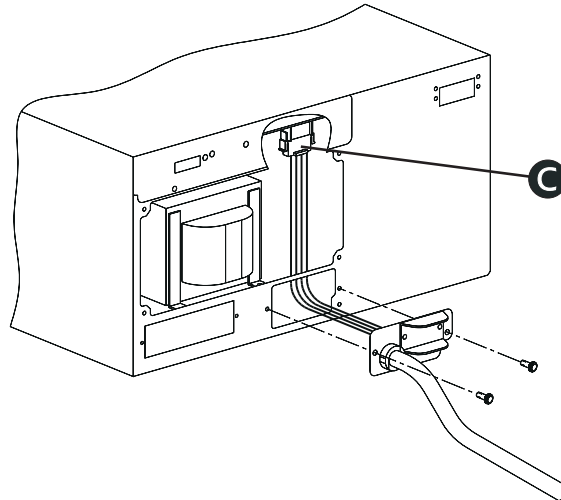

Figure 5-18 Removal of Input Panel (100V and 120V Rack Mount)
1. *Remove the two screws from the input panel as shown in Figure 5-18.*
NOTE: *If you are hard wiring the input only, retrieve the old line cord and cut the last 6" from the end with the 4-wire connector attached. This connector and the attached wires will be spliced to your input line. Using approved field-applied splicing devices, connect the two black wires to Line1 (or Hot) of your input line and the two white wires to Line2 (or Neutral) of your input line. Plug the connector into the mating connector in the UPS (Figure 5-18) and reinstall the input and output panels.*
2. Retrieve one of the four-wire, yellow jumper harnesses (Figure 3-1, item #9). Plug the “female” end of the jumper harness into connector #4. Connect the “male” end of the jumper harness to the 4-pin plug located inside the UPS. (Connector **C** in Figure 5-18)